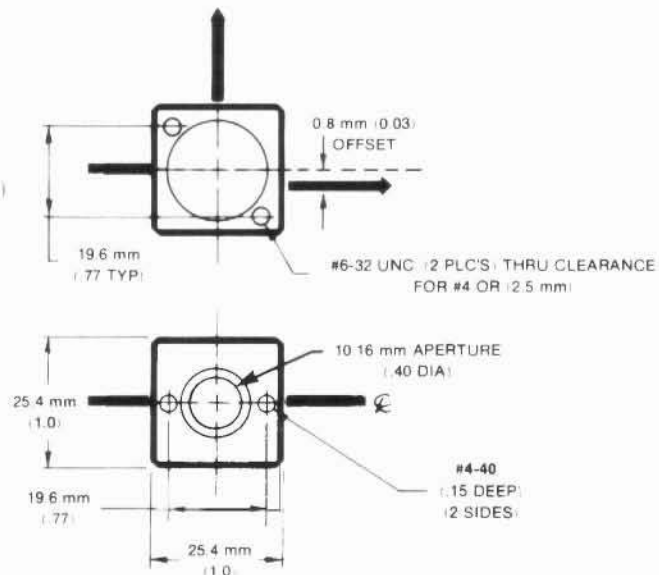

Figure 8-15. HP 10700A 33% Beam Splitter, Dimensions
**Dimensions:** See Figure 8-15.